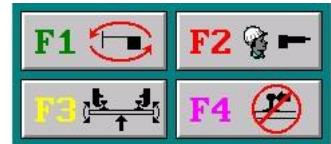

Figure 4-55
- B) Press F4-Reference Change on the First Main Toolbar to access the reference rail panel (figure 4-55). From this panel pressing F1 will select the reference rail for lining.